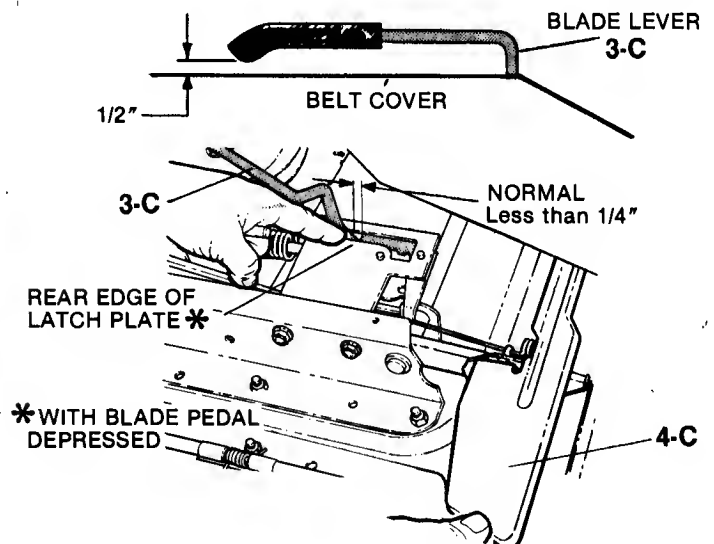
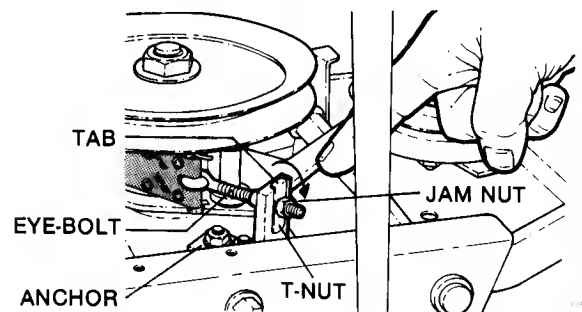

FIG. 10 - BLADE LEVER TRAVEL
FIG. 11 - BLADE BRAKE ADJUSTMENT
As the brake band wears, the BLADE lever will gradually stop further rearward in the slot of the BELT COVER. Blade brake adjustment is required when the lever stops more than 1/4" behind the latch plate. Refer to FIG. 10. The adjusting point is shown in FIG. 11. **With the engine STOPPED**, the adjustment is made as follows:
STEP 2: While holding the BLADE lever firmly in the rearward position, loosen the jam-nut on the end of the eye bolt (refer to FIG. 11).
STEP 4: Release the BLADE pedals to allow the BLADE lever to move to the OFF position, then depress the BLADE pedals again and check the clearance between forward edge of the BLADE lever and the rear edge of the latch plate which should be less than 1/4" (FIG. 10). Repeat the procedure in step 2 if needed to obtain correct clearance. When correct, hold the BLADE lever rearward and turn the jam-nut tight against the T-nut to lock in new position. Reinstall BELT COVER.